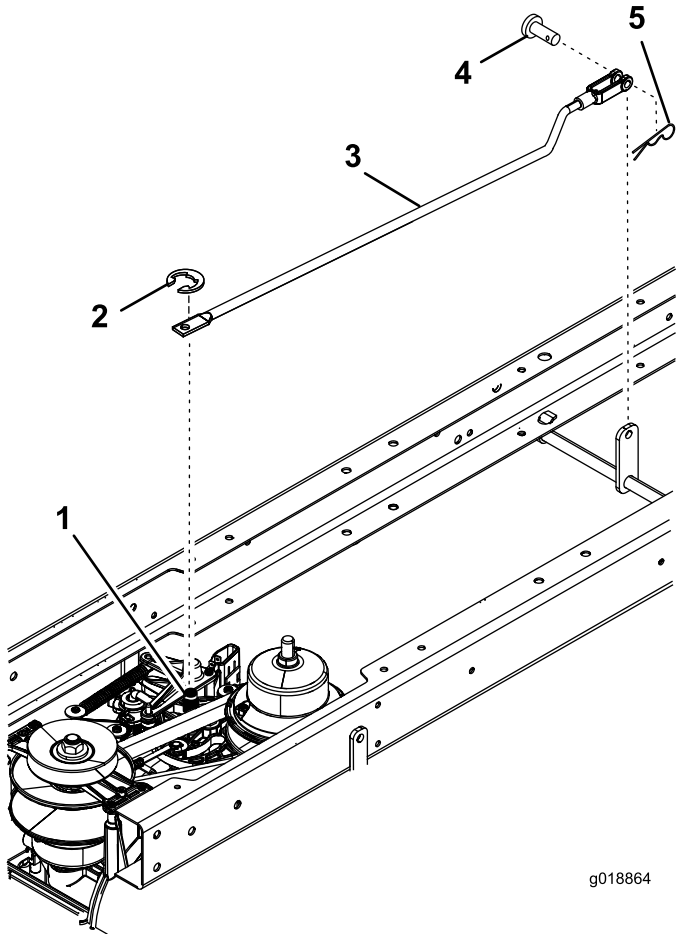

Figure 1
2. Remove the exiting motion control link arm (Figure 1). Save the existing clevis pin, hairpin cotter and E-clip.